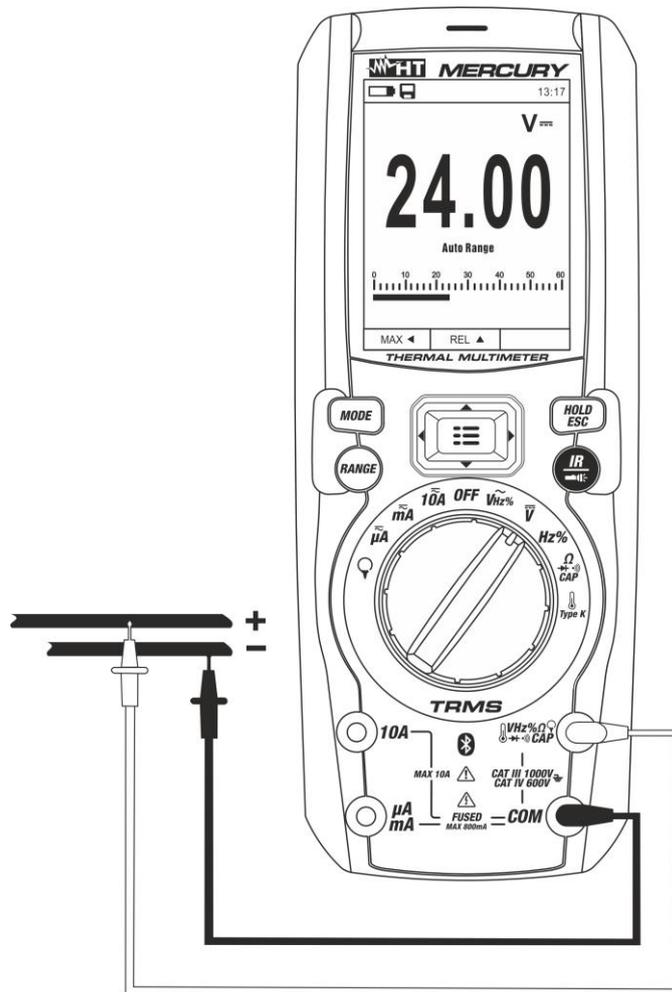

Fig. 21: Use of the instrument for DC, AC+DC voltage measurement
3. Position the red lead and the black lead respectively in the spots with positive and negative potential of the circuit to be measured (see Fig. 21). The display shows the value of voltage.
5. When symbol **"-"** appears on the instrument's display, it means that voltage has the opposite direction with respect to the connection in Fig. 21.